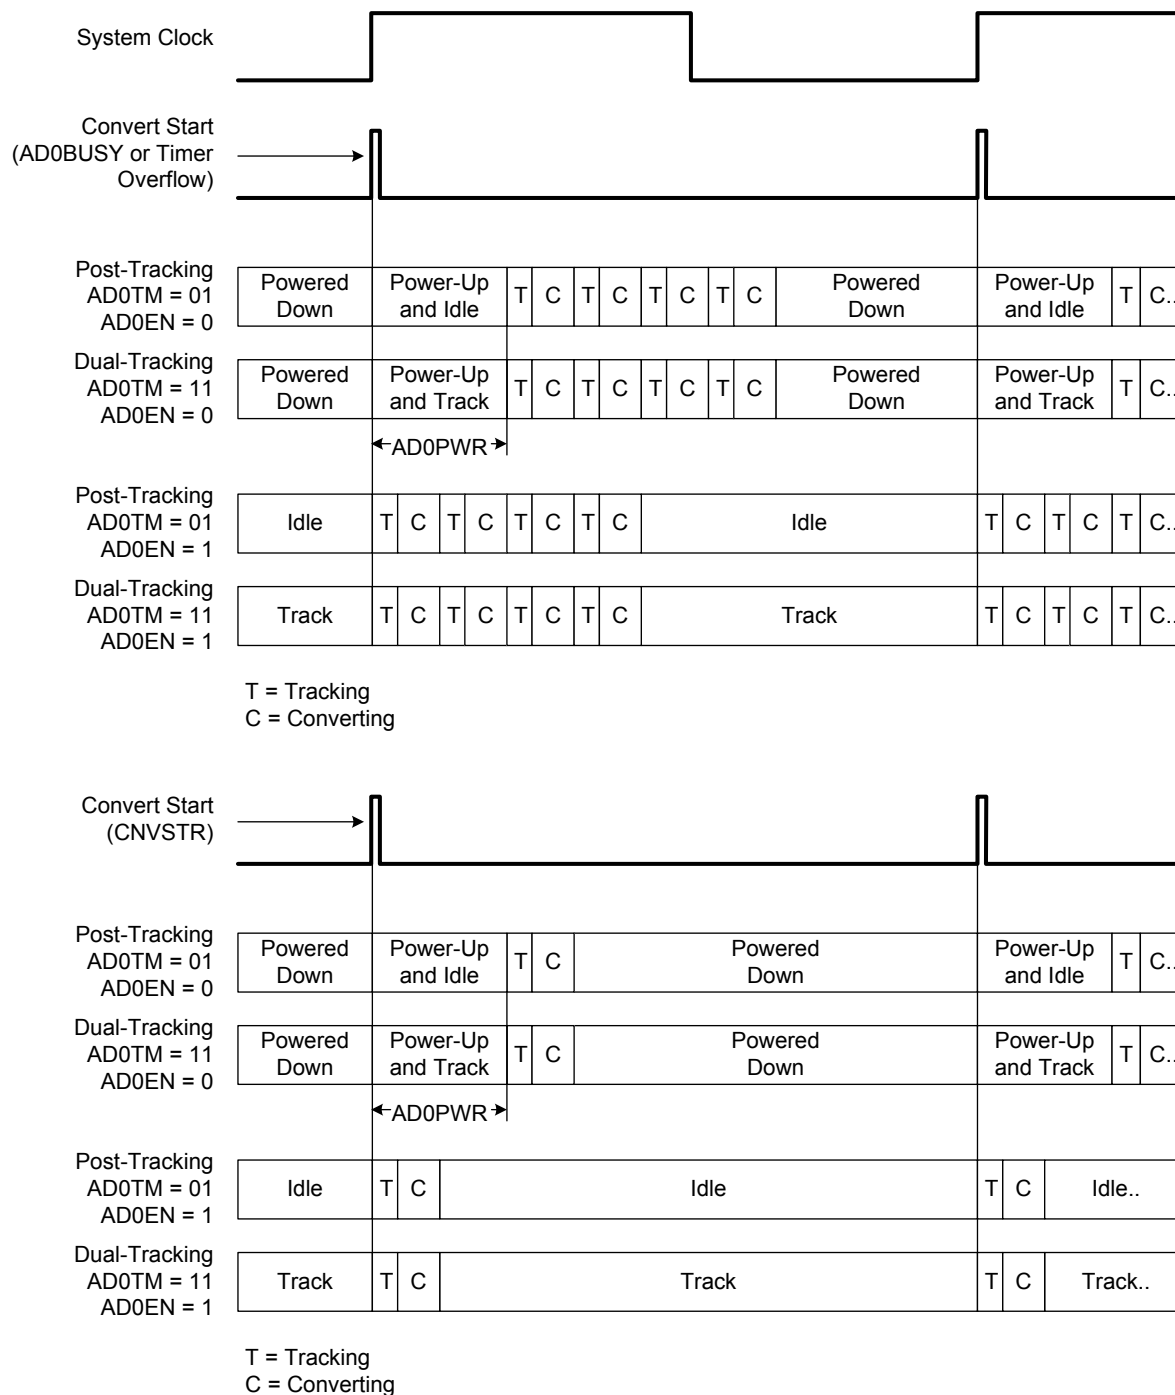

Figure 5.3. Burst Mode Tracking Example with Repeat Count Set to 4
Burst Mode is enabled by setting BURSTEN to logic 1. When in Burst Mode, AD0EN controls the ADC0 idle power state (i.e., the state ADC0 enters when not tracking or performing conversions). If AD0EN is set to logic 0, ADC0 is powered down after each burst. If AD0EN is set to logic 1, ADC0 remains enabled after each burst. On each convert start signal, ADC0 is awakened from its Idle Power State. If ADC0 is powered down, it will automatically power up and wait the programmable Power-Up Time controlled by the AD0PWR bits. Otherwise, ADC0 will start tracking and converting immediately. Figure 5.3 shows an example of Burst Mode Operation with a slow system clock and a repeat count of 4.
- A rising edge of external start-of-conversion (CNVSTR) will cause only one ADC conversion in Burst Mode, regardless of the value of the Repeat Count field. The end-of-conversion interrupt will occur after the number of conversions specified in Repeat Count have completed. In other words, if Repeat Count is set to 4, four pulses on CNVSTR will cause an ADC end-of-conversion interrupt. Refer to the bottom portion of Figure 5.3, “Burst Mode Tracking Example with Repeat Count Set to 4,” on page 79 for an example.